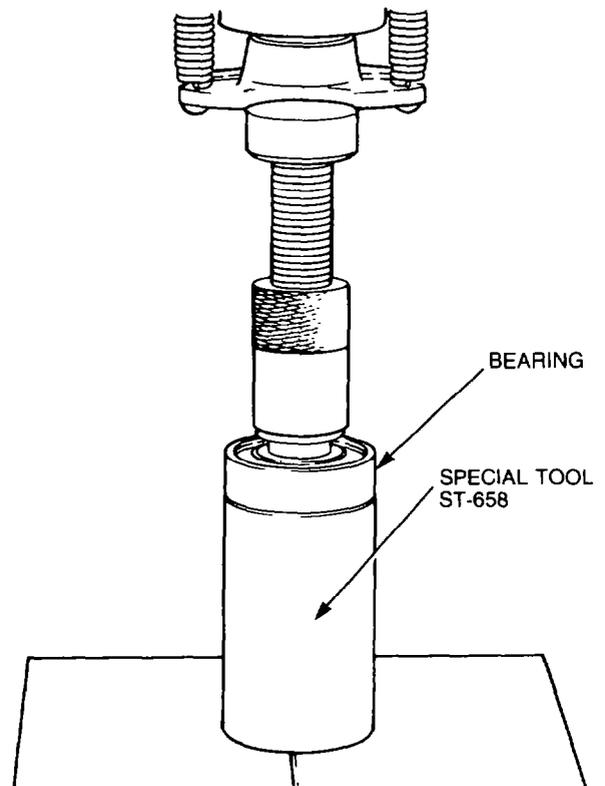

Figure 66 — Installing Idler Shaft Bearing
- a. Lubricate the idler shaft bearing surface with a thin coat of clean lubricating oil, then using special tool ST-658 to support the inner bearing race, press the shaft into the bearing (see Fig. 66) using a suitable press.